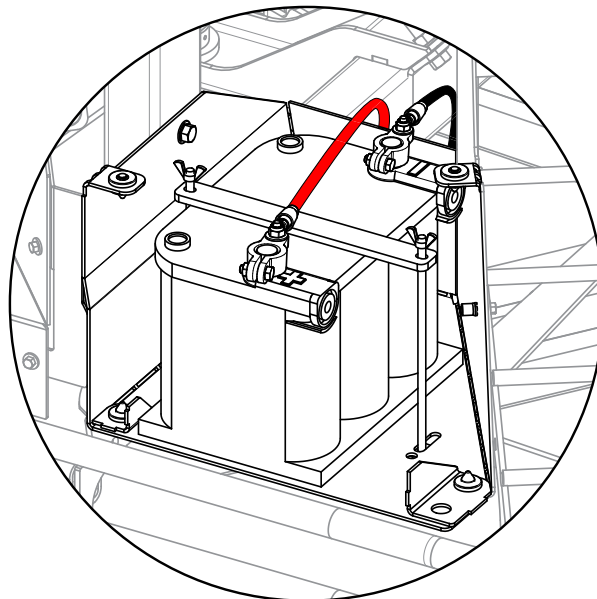

Figure 19. Battery Connection
4. Connect the positive (**RED**) battery cable to the positive (+) terminal on the battery, then connect the negative (**BLACK**) battery cable to the negative (-) terminal. See Figure 19.